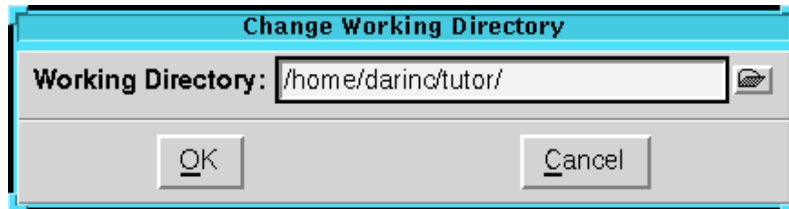

Figure 1-6 Change Working Directory Dialog Box
- Select **File** → **Change Working Directory** to open the Change Working Directory dialog box as shown in the following figure 1-6. In this dialog box, browse to the directory or type in the full path.